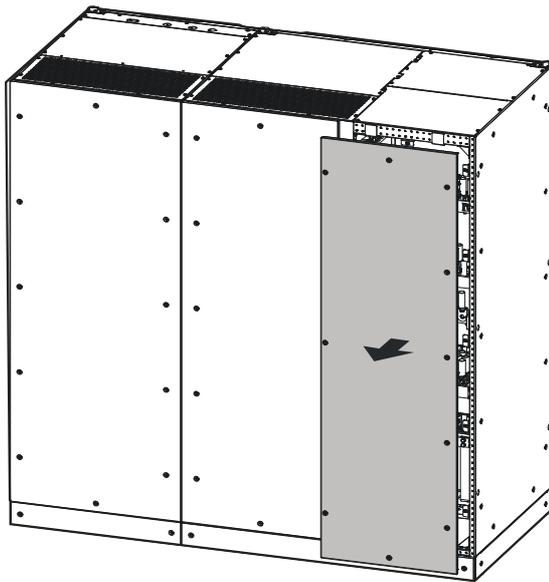

Figure3-35 Dismantle wiring cover plates of BM33800
- Step 1 Use the cross screwdriver to remove the screws from the wiring block, and dismantle wiring cover plates, as shown in Figure3-35.